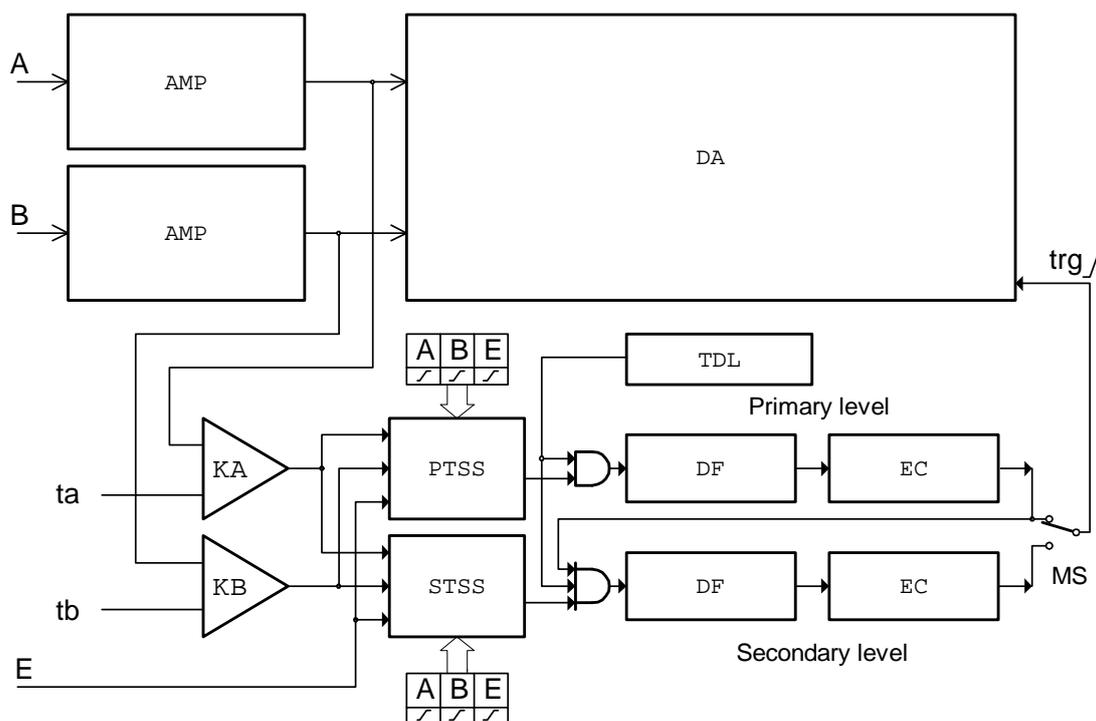

Fig. 2.1.2.1. – Block schematics of trigger circuits
The block schematics of the dual level trigger circuits are shown in figure 2.1.2.1.
the input signal The trigger event is generated with respect to a change of the selector (PTSS, STSS) output signal from 0 (FALSE) to 1 (TRUE). A constant level of the signal cannot start the measurement. In the case that only one of the signals is selected the trigger event is generated corresponding to the polarity, which is symbolically presented by the direction of change of the signal. (0 to 1 means no inversion). When there are several inputs selected, the selector makes a logical addition (OR) of all of the selected inputs. Before adding the signals together, ones are adjusted with respect to the polarity settings. A trigger event is generated only when the change of result of the logical addition occurred from 0 to 1 (FALSE to TRUE). Logical values of the signals in the input of logical adder (OR) from which the trigger event is generated are created on the basis of following rules: value 0 (FALSE) is the value that the selector input signal should have before a valid trigger event. 1 (TRUE) is the value that this signal will have after the valid trigger event. For example, if triggering from Channel A is set to the trailing edge, then the output voltage of the channel is higher than the threshold voltage, consequently the value on the adder input will be 0 (FALSE). Inverse situation will be taken as 1 (TRUE). Note that when using logical addition, all values must be 0 (FALSE) in order for the result to be 0 (FALSE). It is relatively easy to find out which are the valid trigger events. Figure 2.1.2.2 shows several valid and invalid trigger events (all inputs are enabled).